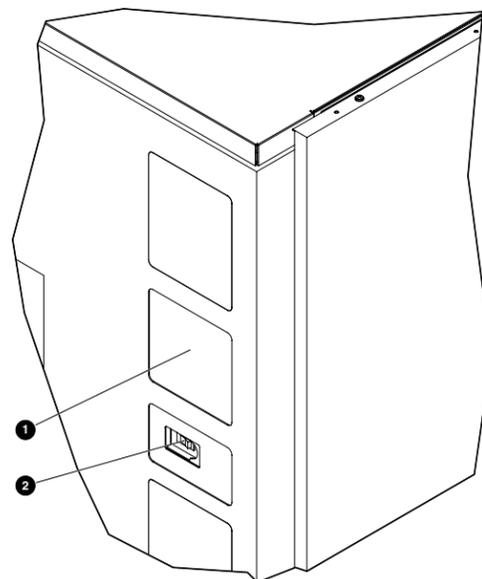

Figure 1: On/Off switch
6. On the front of the library, locate the sliding panel that covers the On/Off switch (see Figure 1).
3. On the front of the library, open the sliding panel that covers the On/Off switch (see Figure 1).